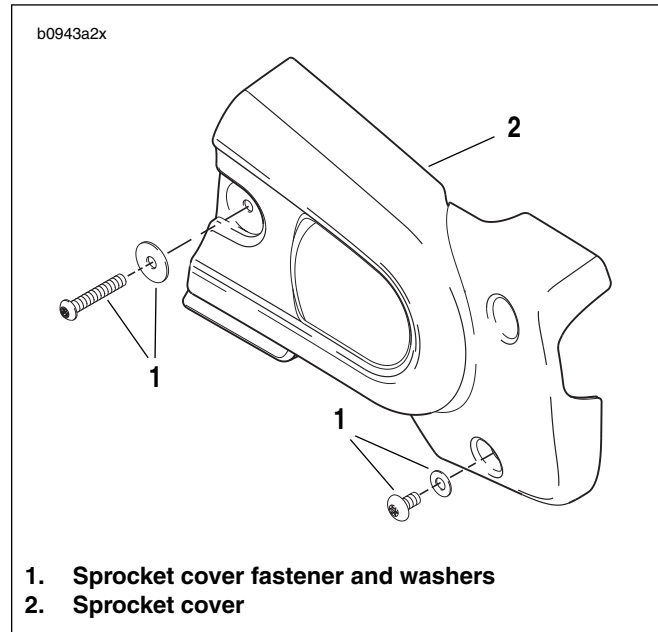
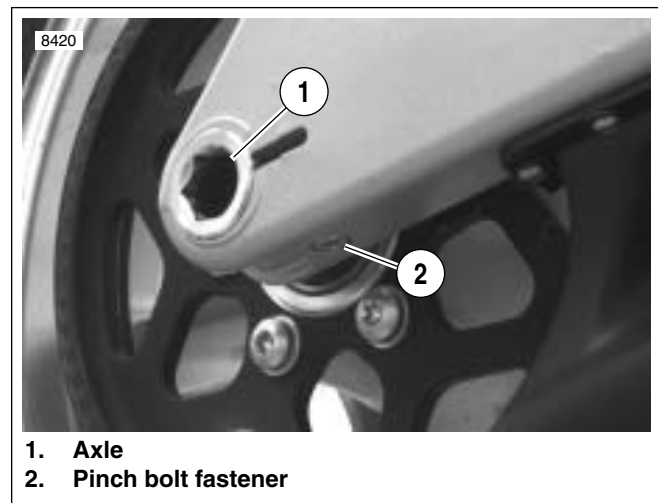

Figure 6-40. Sprocket Cover
Figure 6-41. Rear Wheel Mounting, Right Side
4. See Figure 6-40. Remove sprocket cover. See 2.30.
5. See Figure 6-41. Loosen rear axle pinch fastener (2).
6. Loosen rear axle (1) approximately 15 rotations to allow partial tension to be removed from rear drive system.
8. See Figure 6-41. Tighten rear axle (1) to 23-27 ft-lbs (31.2-36.6 Nm), back off two full turns and then retighten to 48-52 ft-lbs (65.1-70.5 Nm).
9. Tighten rear axle pinch fastener (2) to 40-45 ft-lbs (54-61 Nm).
10. See Figure 6-40. Install front sprocket cover (2) by tightening fasteners to 12-36 **in-lbs** (1-4 Nm). See 2.30 SPROCKET COVER.